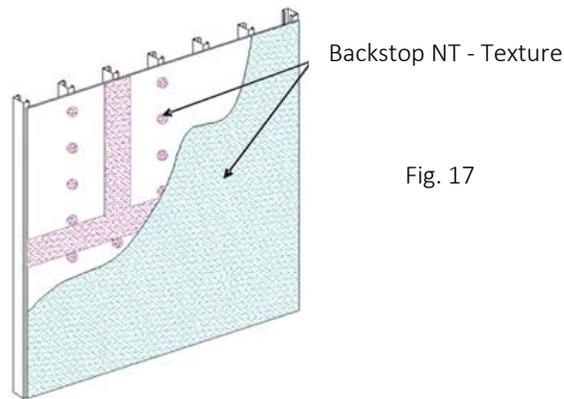

Fig. 17
- 3) Use a coarse, open-cell foam roller cover with a 3/8 in (9.5 mm) foam nap (FoamPRO #58 roller). Apply a uniform, continuous film of Backstop NT – Texture over the entire surface of the sheathing, concrete or masonry, including the previously treated areas – Figure 17.
- 4) While Backstop NT - Texture is still wet, using a trowel or spatula, smooth out the Backstop NT - Texture around all window and door perimeters and other areas that will later receive Dryvit Flashing Tape – Figure 17.